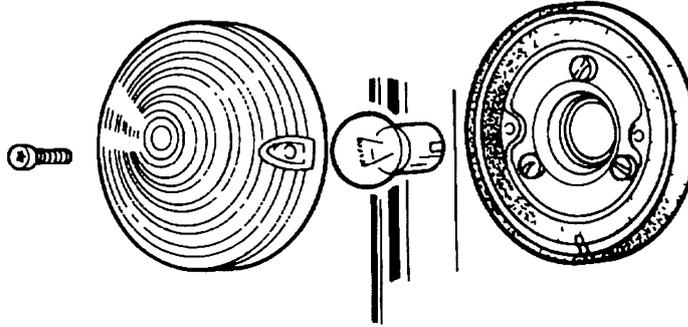

Figure 181 Park Light Exploded View
- a. Remove the two screws securing the lens (Figure 181).